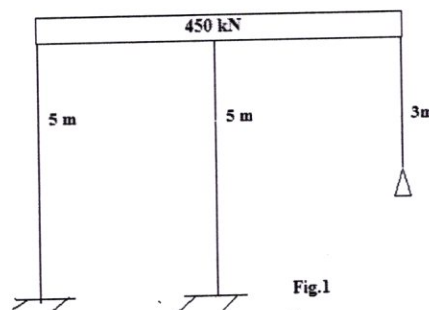

Fig.1
b) Compute the natural frequency in the side sway for the frame as shown in Fig.1. If the initial displacement is 20mm and initial velocity is 20m/s, compute the amplitude. Write the expression for displacement. Damping is 10% of critical. Cross-sectional dimension of columns and beam is 230mm X 300 mm:  $E = 22.4 \text{ GPa}$ . 08 L4 CO1